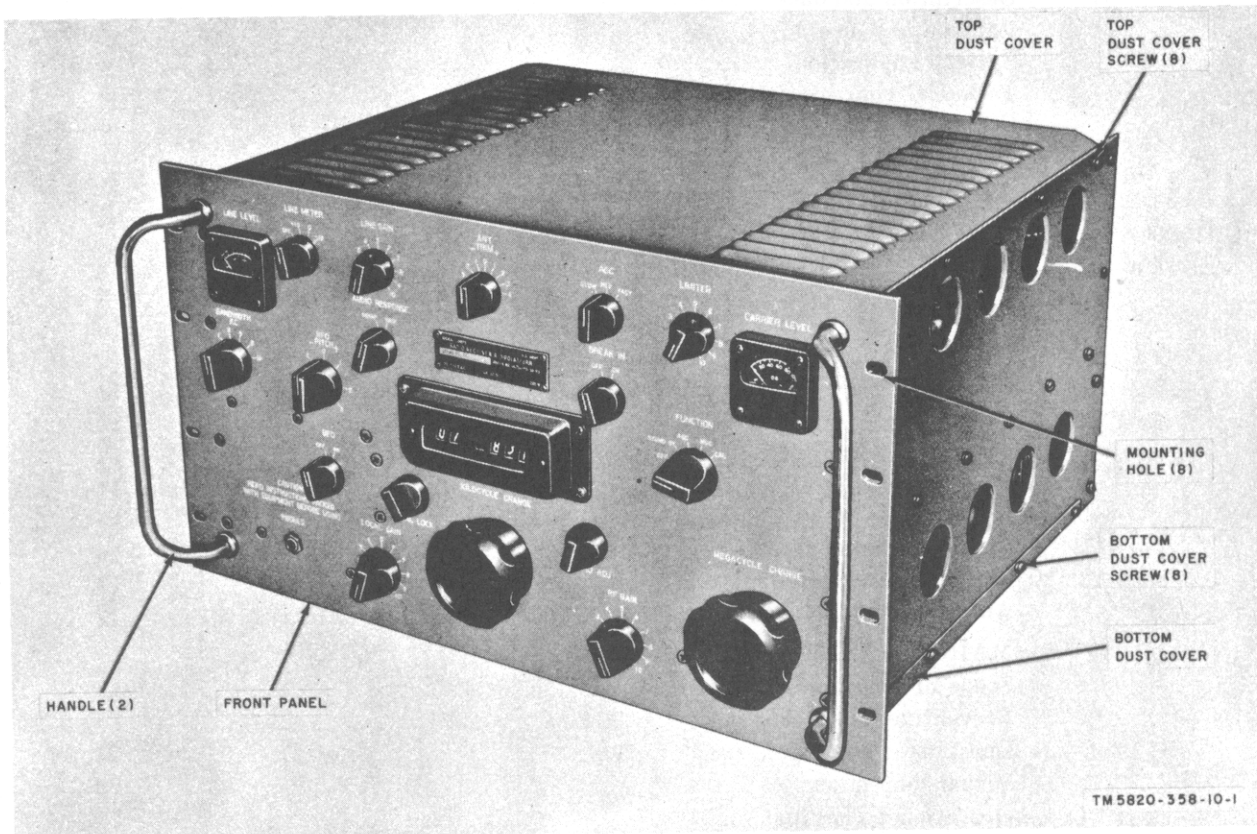

Figure 1. Radio Receiver R-390A/URR.
This manual describes Radio Receiver R-390A/URR (fig. 1) and covers its operation, and operator's maintenance. It includes cleaning and inspection of the equipment and replacement of parts available to first echelon maintenance. Throughout this manual, Radio Receiver R-390A/URR is referred to as the receiver.
a. The receiver (fig. 1) is a general-purpose receiver for use in both fixed and mobile applications. The receiver provides reception of continuous-wave (cw), modulated-continuous-wave (mcw), amplitude-modulated (am.), frequency-shift keyed (fsk), and single-sideband (ssb) signals.